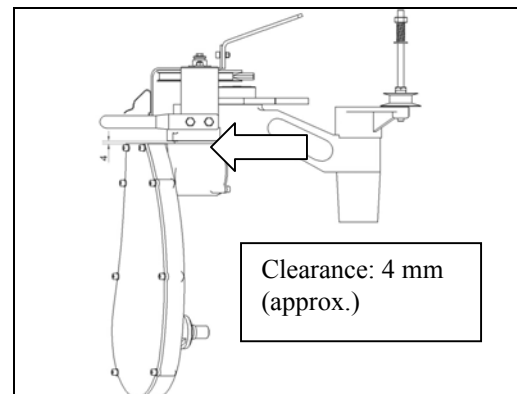

Fig. 82
- Check that the clearance between the transmission and the bar is about 4mm (Fig. 82)